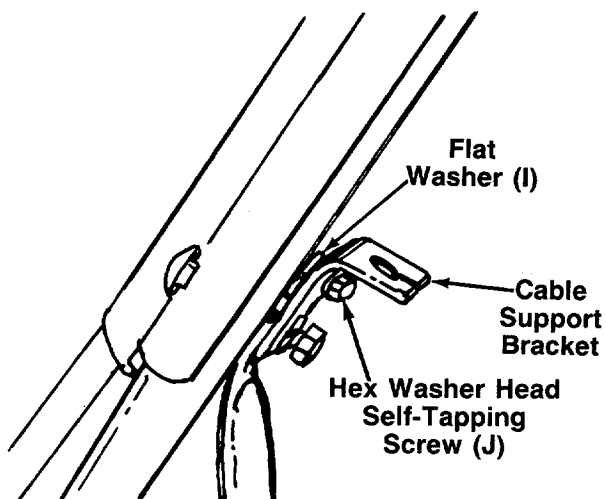

FIGURE 12.
14. Place flat washer (I) between handle and upper hole on cable support bracket. Secure with hex washer head self-tapping screw (J). See figure 12.